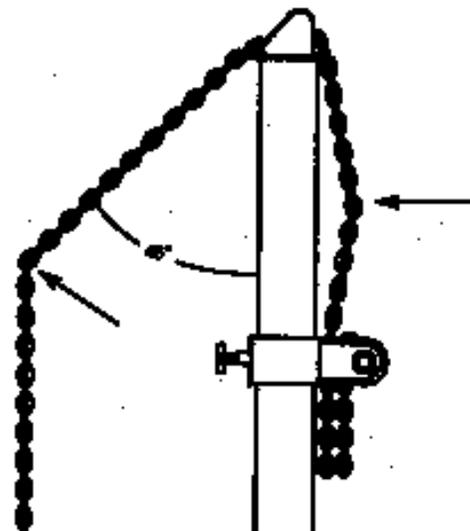

Figure 41
6. To adjust chain length, grip chain on each side of tower. (See Figure 41.) Lift tail of chain outward until it is approximately 45 degrees from tower. Disengage chain from tower head and pull chain to either increase or decrease chain length.